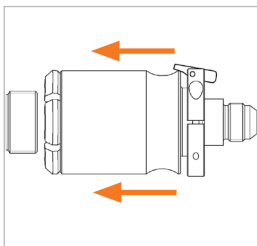

Figure 2
- ▶ Push the connector forward onto the container using the sliding sleeve (Pos. 1) (Figure 2).